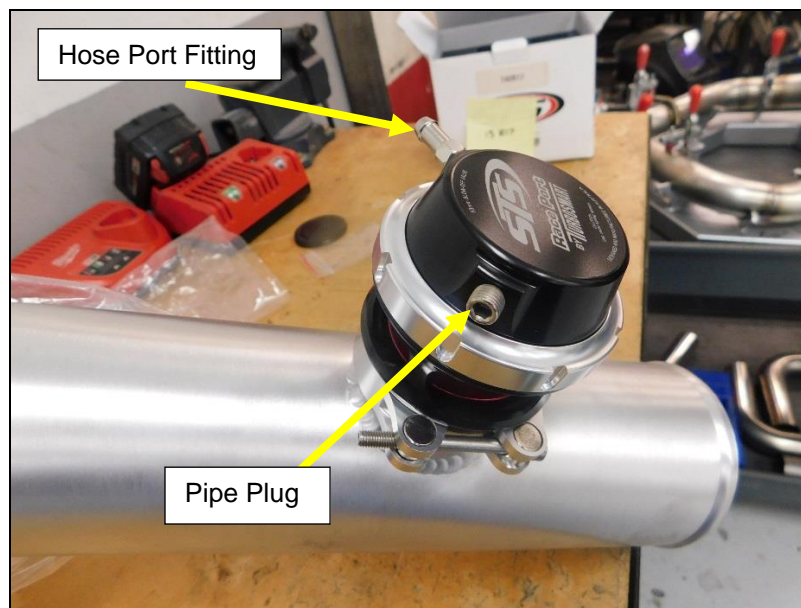

Figure 28
6. Install the hose port fitting into the drivers side port and install the plug into the second port of the top cover. Tighten both fittings to a snug condition. **DO NOT OVER TIGHTEN Fig.28**